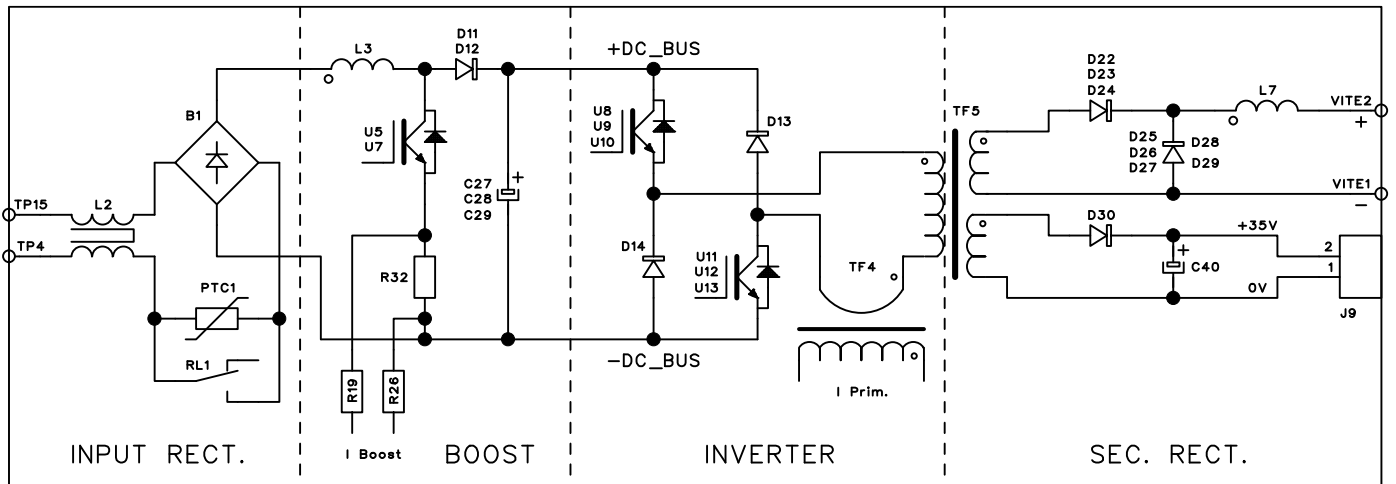

Fig. 2.3.1
More precisely in the power board (45) they can be identified (Fig. 2.3.1):
- the igbt inverter, that generates the square wave alternated voltage for the TF5 power transformer, installed on the power board (45);